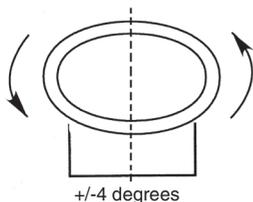

Fig. 3A
4. Using the bracket as a template, mark the position of the screw holes. Drill the holes in the wall where the light is to be mounted. Use suitable screws and wall plugs if necessary. The floodlight must be fixed securely. Mount the floodlight horizontally ($\pm 4^\circ$) (Fig. 3A).